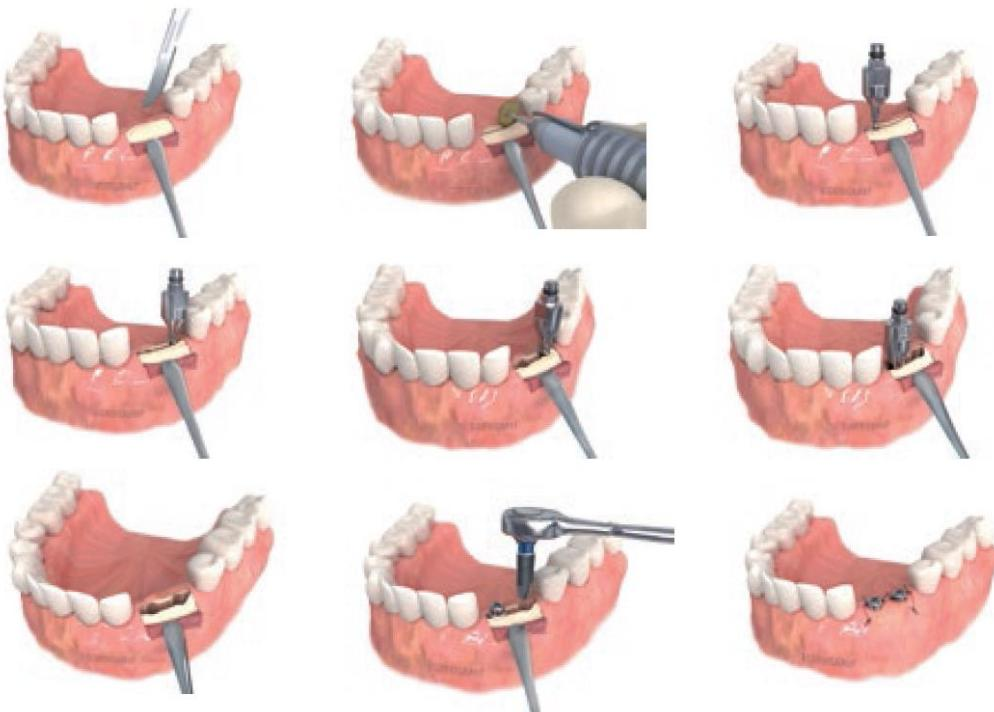

Figure 2: Main steps in the sequence of using the expanders for the "Cortical Split" performance.
B) Instructions for use. Cortical Split with expanders (Figure 2):